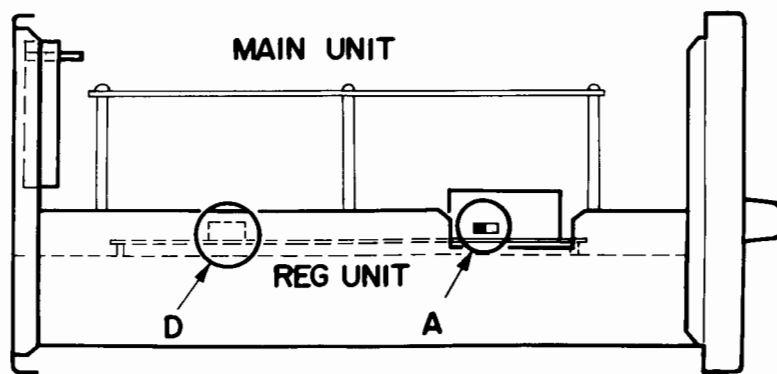

Fig. 14
Locate the switch marked A in Figure 14. At this switch, there are two marks: H and L. For channel 3, set this switch to L, and for channel 4, set the switch to H. No further adjustment is required.
- (3) Locate 4-pin P110/J602, marked E in Figures 14 and 17. Also locate J701 and P701 (from the LOCAL LOOP UNIT). Remove P110 from J602, and connect P110 to J701, as shown in Figure 17. Now connect P701 to J602, as shown in Figure 17.